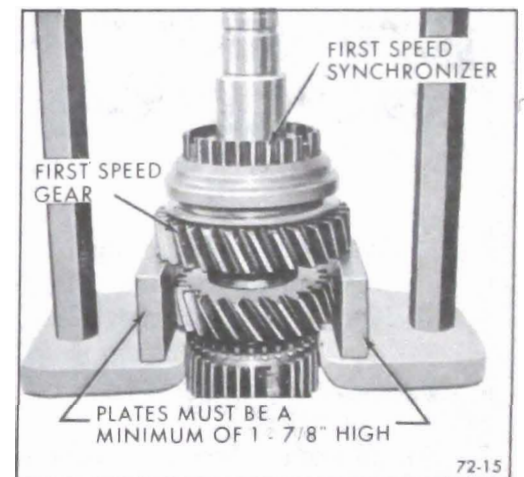

Figure 72-15 - Removing First Speed Synchronizer Assembly
6. Support first speed gear on press plate using two (2) pieces of stock 6x1-7/8x1/4. See Figure 72-15. Remove first speed synchronizer assembly and first speed gear.